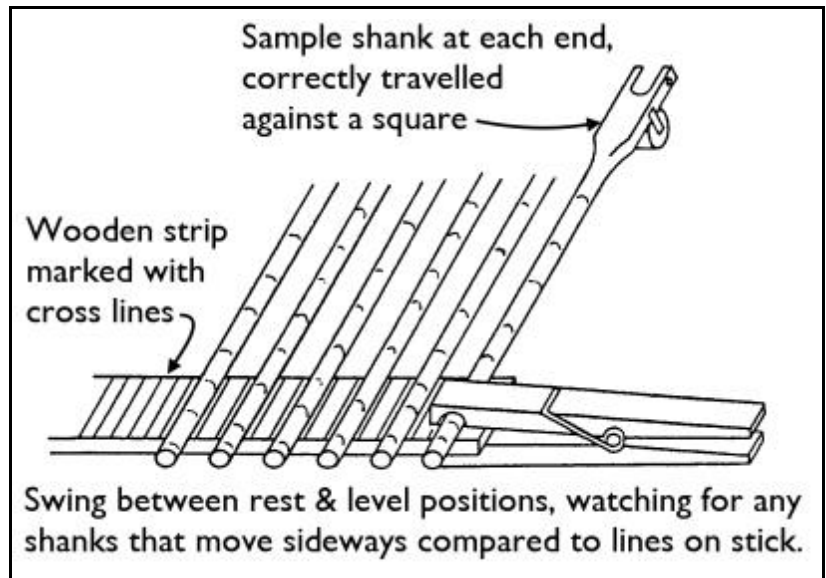

Figure 11: Traveling shanks
- Travel the new shanks, as in Figure 11.